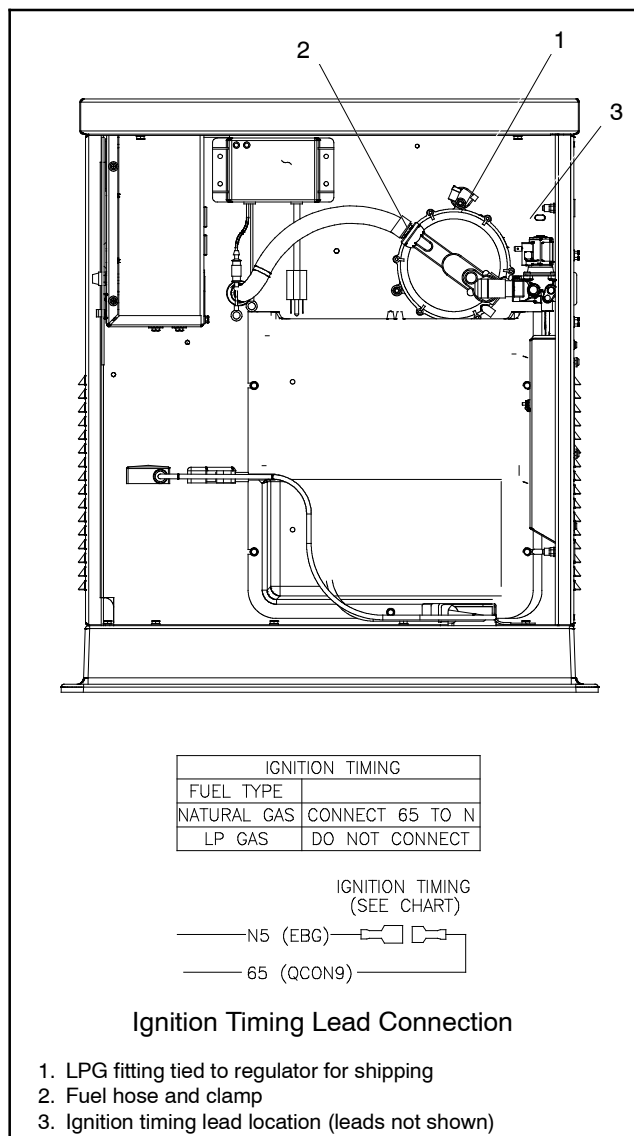

Figure 1-10 Fuel System, As Shipped
The unit is typically shipped set up for natural gas, with the LPG fitting tied to the fuel regulator. To convert to LPG, remove the NG fitting and install the LPG fitting as described below. See Figure 1-10 for the fuel system component locations.
5. Remove the hose clamp and fuel hose from the hose fitting. See Figure 1-10.
9. Disconnect ignition timing leads 65 and N5 for LPG. The ignition timing leads are located near the fuel solenoid valve. See Figure 1-10.